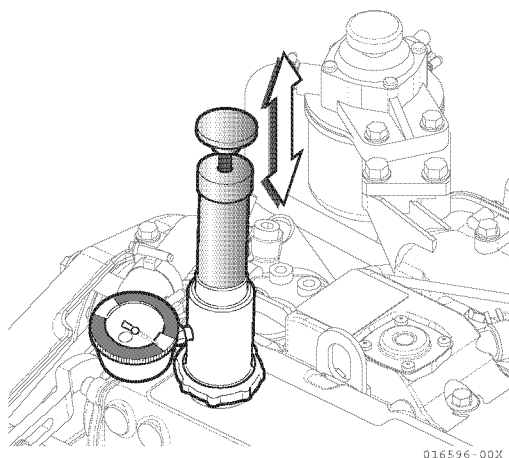

Figure 7-4
4. Pump until pressure is 1.45 bar (21 psi) (Figure 7-4).